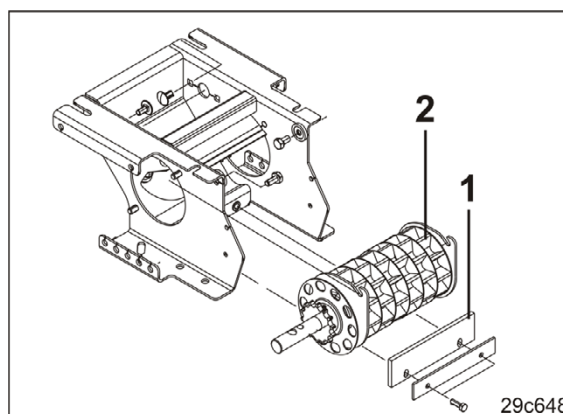

Fig. 185
- A defective or wrongly set metering lip (Fig. 185/1) will cause metering errors.
Set the metering lip so that it is lying lightly up against the metering roller (Fig. 185/2).